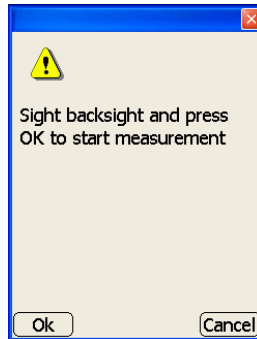

Figure 5-6. Sight Backsight and Press Ok To Measure
8. Sight the backsight prism (or the vertical reference if the backsight has no prism) through the telescope, exactly placing the cross-hairs in the center of the prism. Press **Ok** to measure (Figure 5-6).